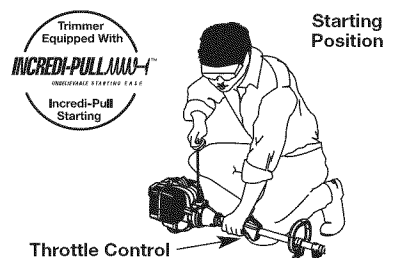

Fig. 8
WARNING: Avoid accidental starting. Make sure to be in the starting position when pulling the starter rope (Fig. 8). To avoid serious injury, the operator and unit must be in a stable position while starting.
5. Crouch in the starting position (Fig. 8). Do not squeeze the throttle. Pull the starter rope with a controlled motion until the unit starts.
5. Crouch in the starting position (Fig. 8). Do not squeeze the throttle. Place the Plug-In Power Start or Power Bit Start into the back of the unit. Refer to the *Operation* section of the Plug-In Power Start or Power Bit Start operator's manual.
6. Press and hold the ON (I) button of the Plug-in Power Start or Power Bit Start equipped drill in intervals no longer than 4 seconds each until the unit starts.
7. Wait and allow the unit to idle for 5 - 10 seconds. If the unit stops running during this time, squeeze the throttle control, then press and hold the ON (I) button of the Plug-in Power Start or Power Bit Start equipped drill in intervals no longer than 4 seconds each until the unit starts.